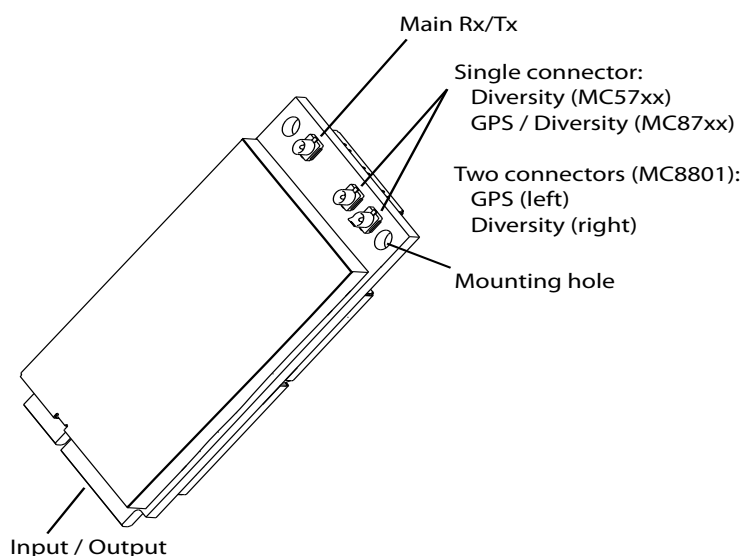

Figure 3-1: Antenna connection points and mounting holes
- Use a Hirose U.FL connector (model U.FL #CL331-0471-0-10) to attach an antenna to a connection point on the module, as shown in Figure 3-1 (main RF, diversity RF, GPS, combined diversity/GPS).
- Connect to system ground using the two mounting holes at the top of the module (shown in Figure 3-1 on page 39).